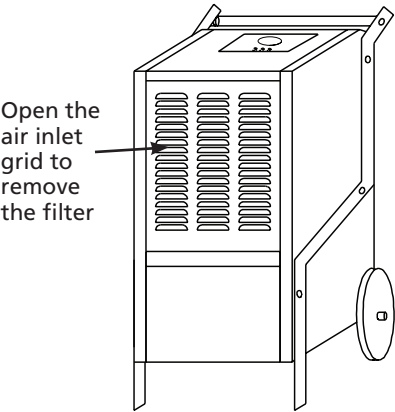

Figure 5 – Air Inlet Grid
1. Pull the air inlet grid from the front of the unit and remove the filter. See Figure 5.